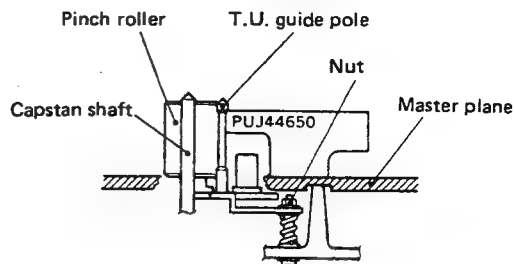

Fig. 2-32 Take-up guide pole height
2. If necessary, adjust the height by turning the nut as shown in Fig. 2-32.